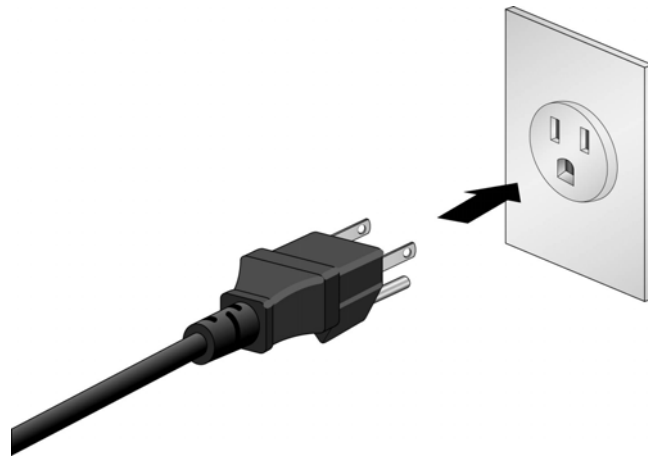

Figure 54. Connecting the Power Cord to an AC Power Source
4. Plug the other end of the power cord into an appropriate power source. Refer to Figure 54. For power requirements, refer to “Power Specifications” on page 135.